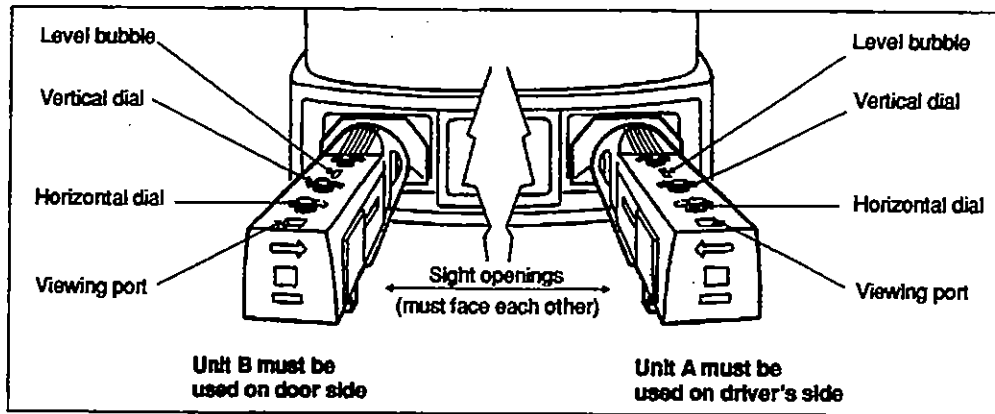

Figure 44
2. Install aligners on headlights (unit A on driver's side and unit B on other side with the sight openings facing each other) by pushing the handle forward to secure rubber suction disc. Pull handle until it locks. Refer to figure 44.